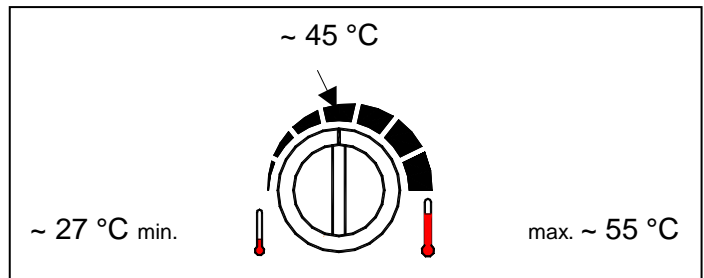

Fig. 4: Energy-saving setting
- ⇒ For a high coefficient of performance of the integrated heat pump and low standby losses, the HWHP should not normally be operated at water temperatures in excess of 45 °C (Fig. 4).